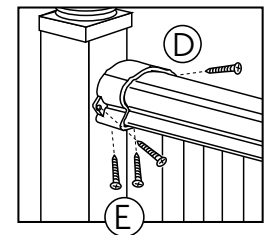

Figure 8
- 15.) Install final two screws through bottom of top rail brackets into top rail (Figure 8).